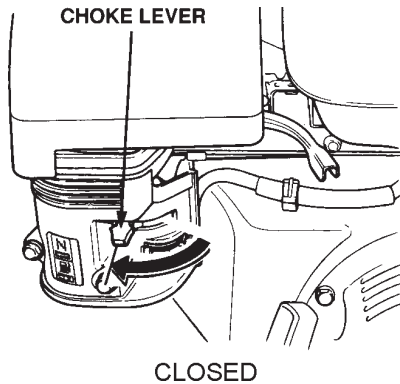

Figure 14. Choke Lever (Closed)
7. If the engine has started, slowly return the choke lever (Figure 14) to the **"CLOSED"** position. If the engine has not started repeat steps 1 through 6.